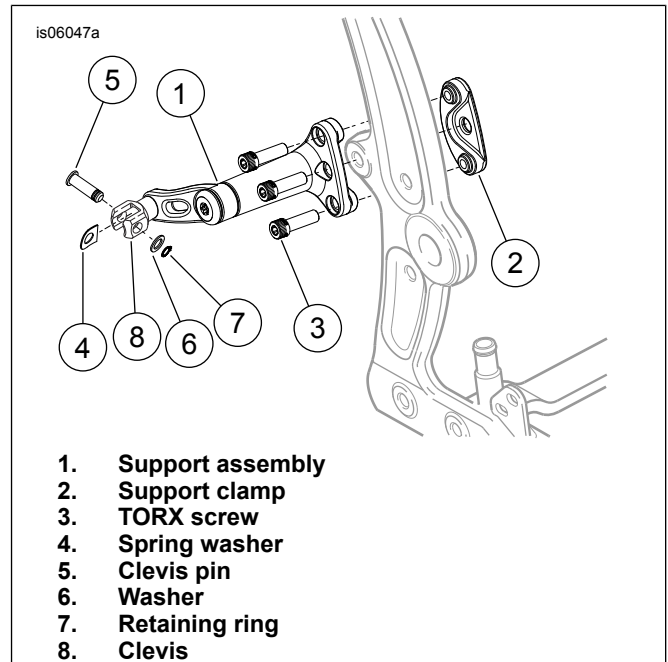

Figure 2. Adjustable Footrest Installation
4. See Figure 2. Install the new support assembly (1) and support clamp (2) using TORX® cap screws (3).